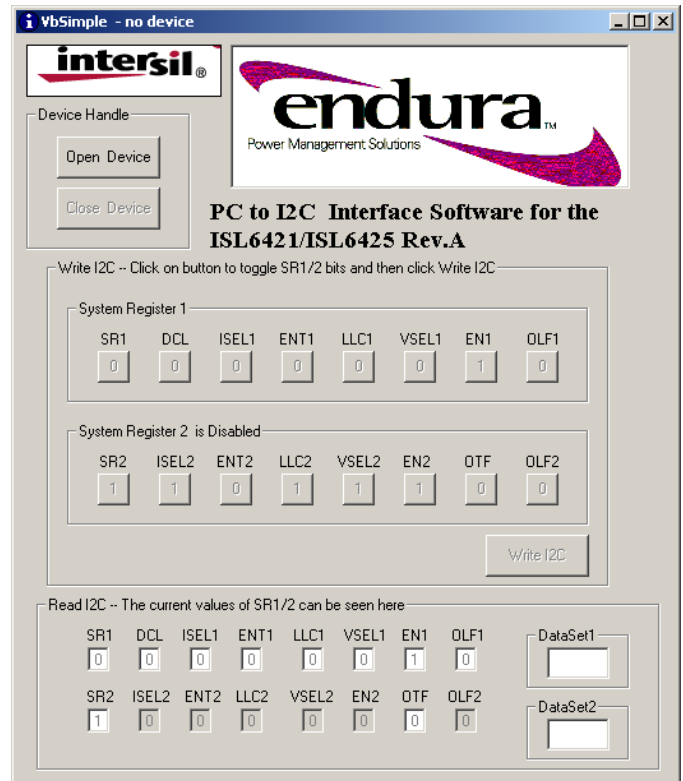

FIGURE 3. PC TO I2C APPLICATION WINDOW
9. Run the ISL6421&25\_I2C\_reva.exe program copied to C:\some directory'. Figure 3 shows the PC to I2C software application window. Click the 'Open Device' button.